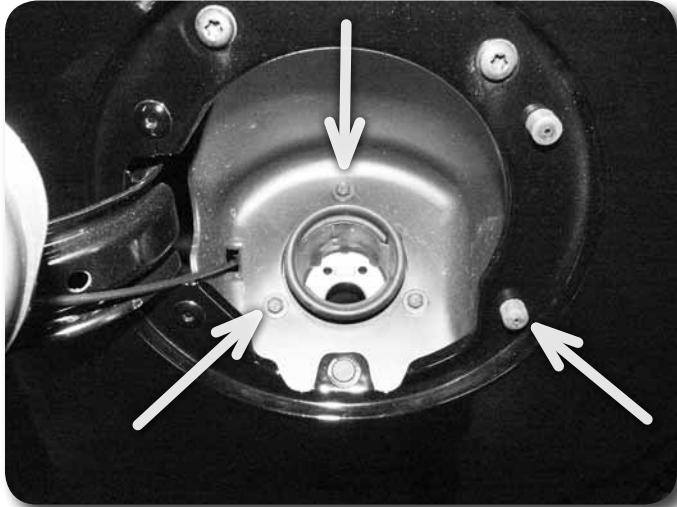

Figure 31
6. Disconnect the fuel filler neck from the body by removing the 3 mounting screws **Figure 31**. Save mounting screws.